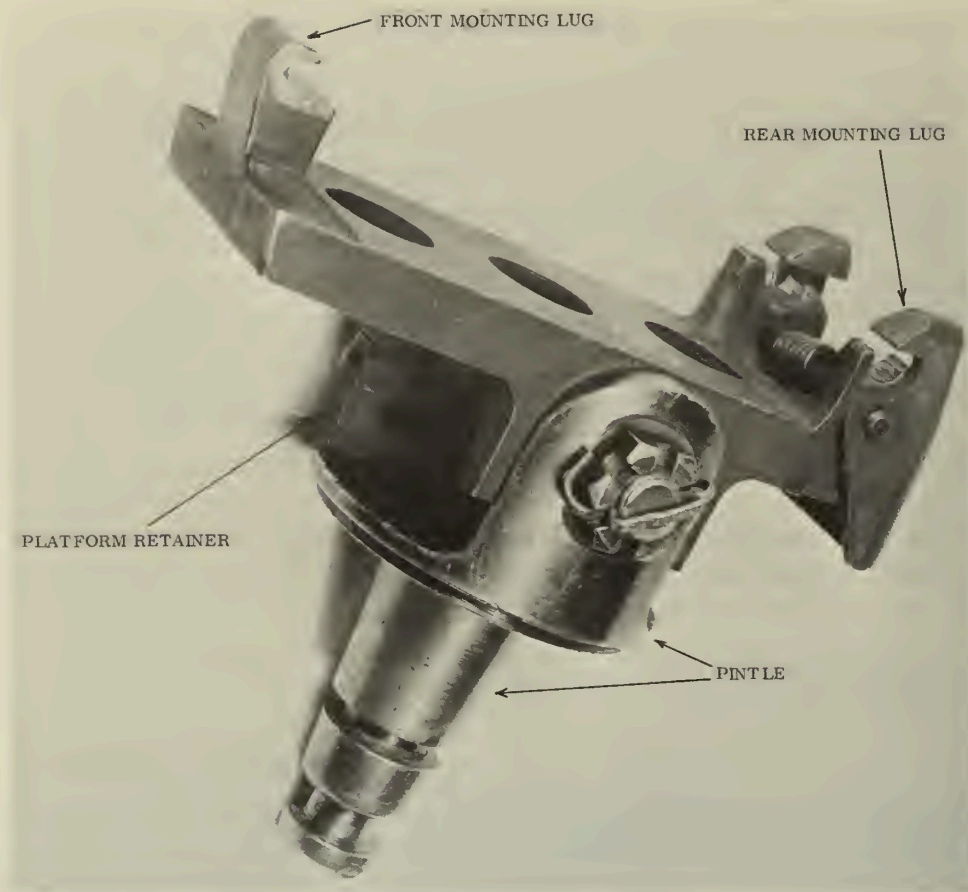

Figure 72. --Gun Platform and Pintle.
b. The Gun Platform and Pintle. --(See fig. 72.) The gun platform has a front and a rear mounting lug which engage the locating pins on the bottom of the receiver of the gun. It is attached by a bolt to the pintle, which is designed to mount on the tripod head. Beneath the gun platform is the platform retainer. This may be lowered when mounting the gun. It prevents movement of the gun platform.